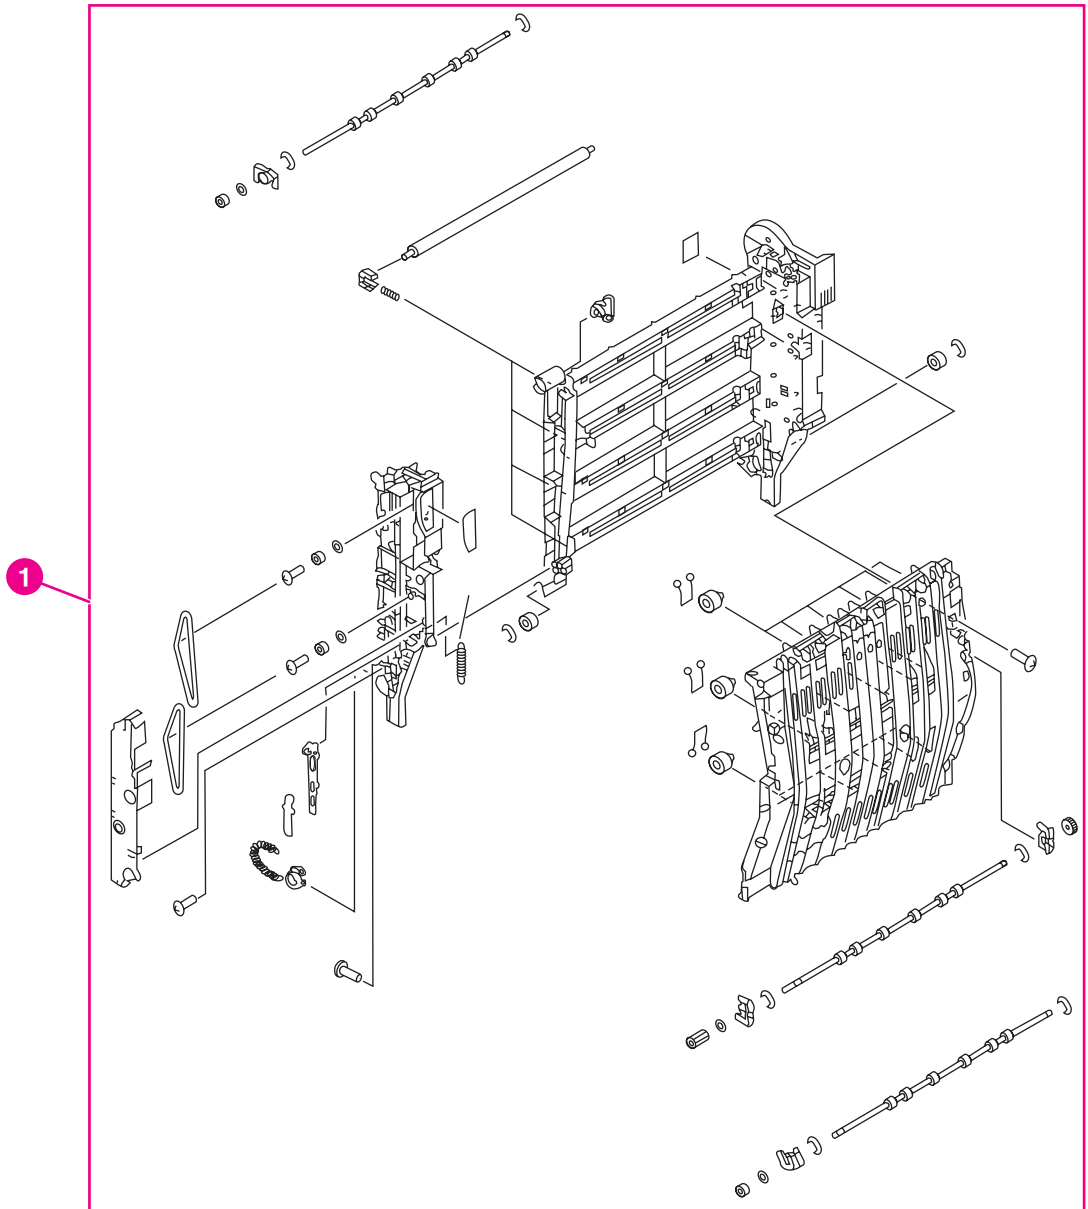
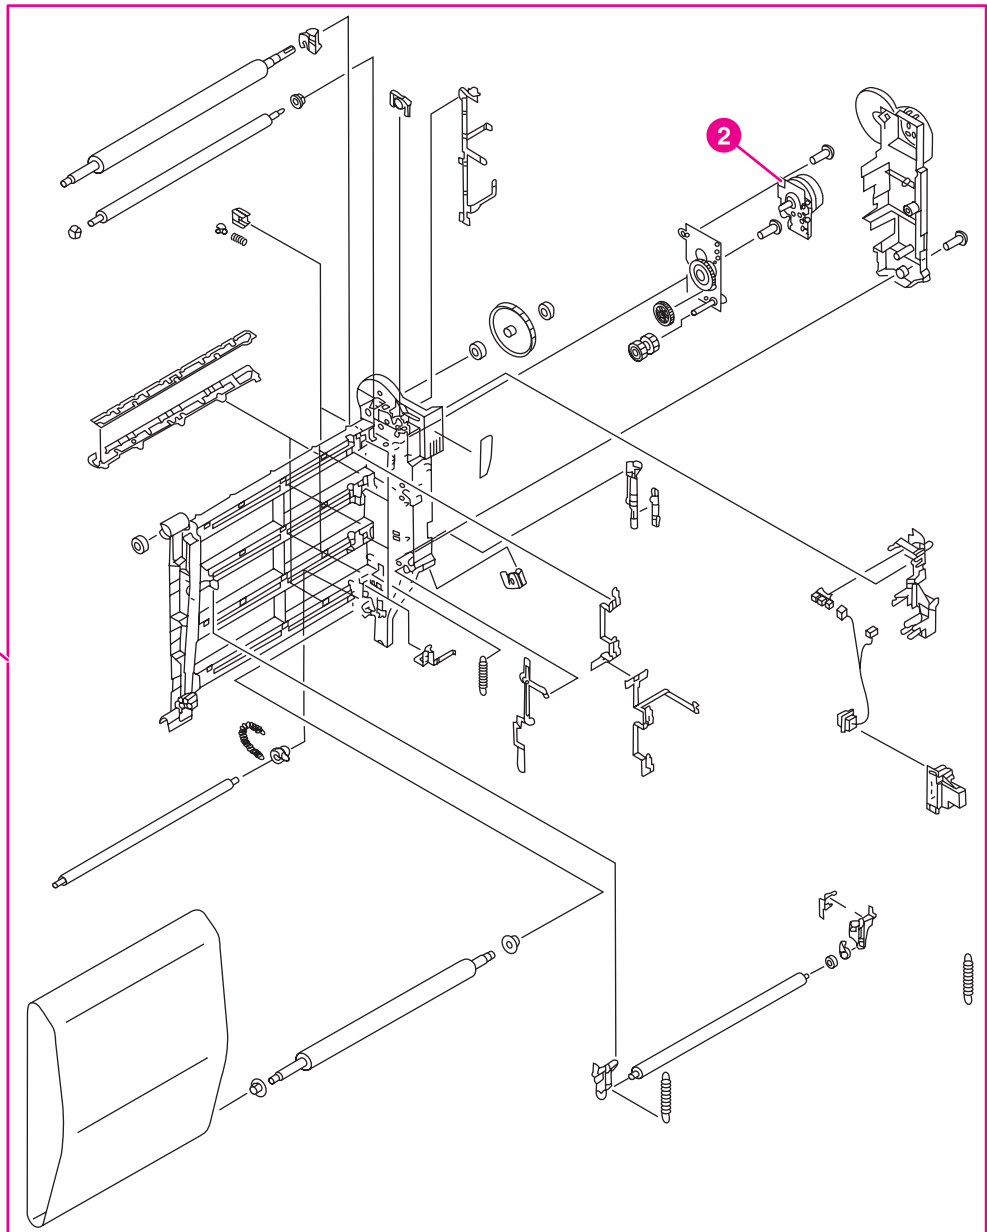

Figure 8-22. ETB assembly (1 of 2)
Figure 8-23. ETB assembly (2 of 2)
Table 8-21. ETB assembly lists parts shown in Figure 8-22. ETB assembly \(1 of 2\) and Figure 8-23. ETB assembly \(2 of 2\). If you order a replacement ETB (item 1), you will receive all parts shown in both figures.